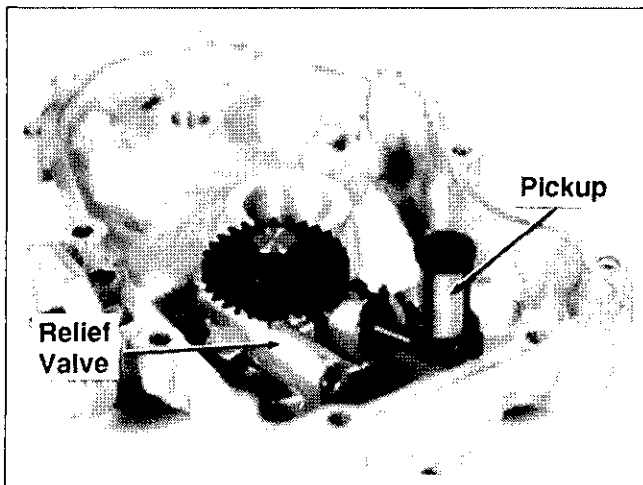

Figure 10-15. Oil Pump, Oil Pickup and Relief Valve.
5. Remove the oil pressure relief valve piston and spring. See Figure 10-15.